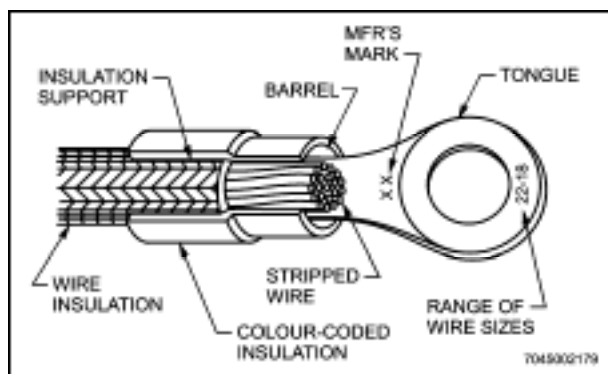
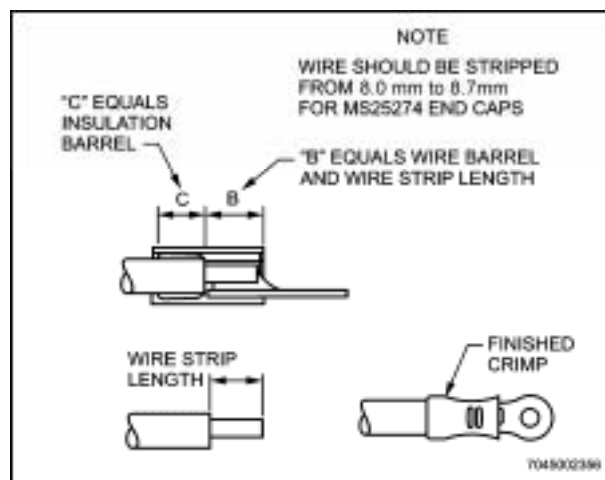

Figure 6-2 Preinsulated Terminal Lug – Cut-Away
Figure 6-4 Proper Insertion of Stripped Wire in Insulated Terminal Lug for Crimping
8. Small copper wires (sizes No. 26 thru No. 10) are terminated with solderless pre-insulated straight copper terminal lugs conforming to SAE AS 7928. (See Annex A, Table 6-A-1.) As shown in Figure 6-2, the
- e. Insert stripped wire into terminal lug barrel until wire insulation butts flush against near end of wire barrel. (See Figure 6-2 or Figure 6-4.)
15. Copper terminal lugs of two styles (straight and flag) are used to terminate copper wires sizes No. 8 through No. 4/0. The style to be used depends on existing space conditions. These terminal lugs are available uninsulated in both types and pre-insulated in the straight type. Straight pre-insulated terminal lugs conform to SAE AS 7928 (see Annex A, Table 6-A-1). As shown in Figure 6-2, pre-insulated terminal lugs have the insulation extending beyond the wire barrel, so that it will cover a portion of the wire insulation. This makes the use of a separate insulating sleeve unnecessary. Straight uninsulated terminal lugs conform to SAE AS 7928 and MS20659. Flag uninsulated terminal lugs conform to SAE AS 7928 and MS25189.